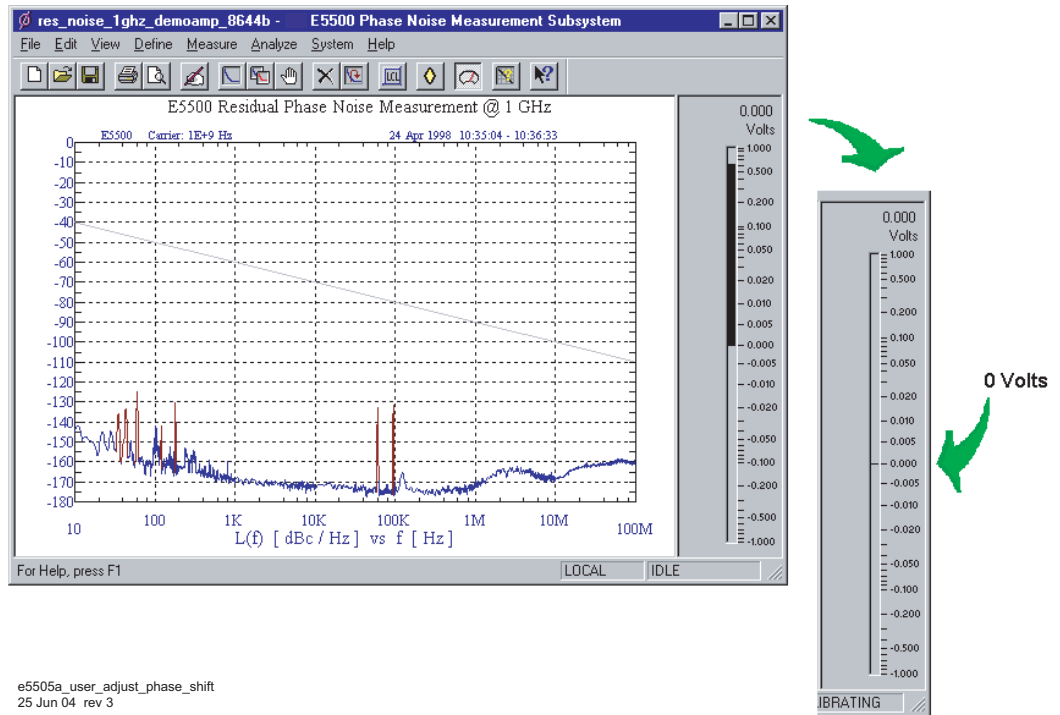

Figure 176 Adjust phase shifter until meter indicates 0 volts
- 6 The system software will then prompt you to set the phase noise software's meter to quadrature by adjusting the phase shifter until the meter indicates 0 volts, then press Continue. See Figure 176 on page 248.